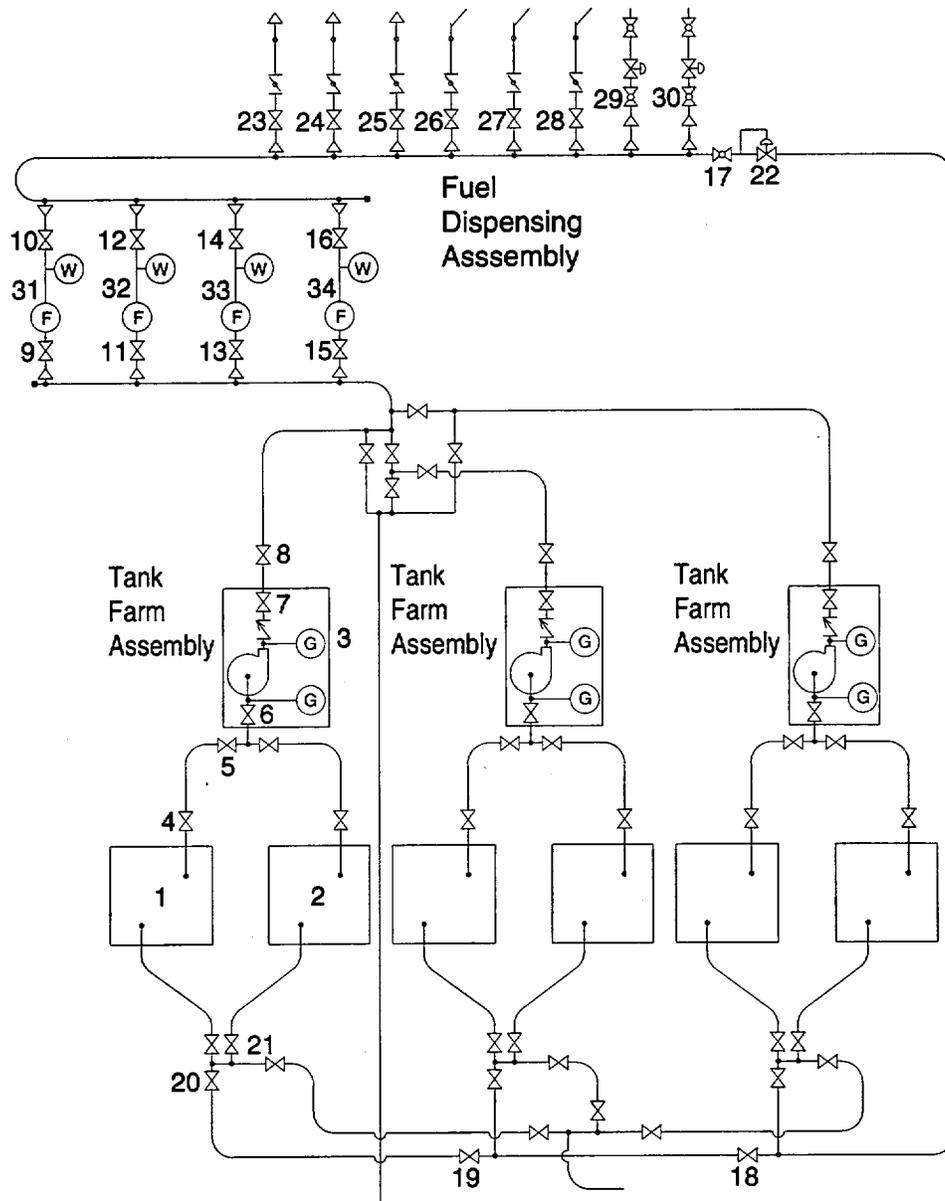

Figure 2-26. Fuel Discharge Schematic
- (5) Discharge Fuel from a Tank Farm (Module) Assembly Through the Fuel Dispensing Assembly. (See figure 2-26.)